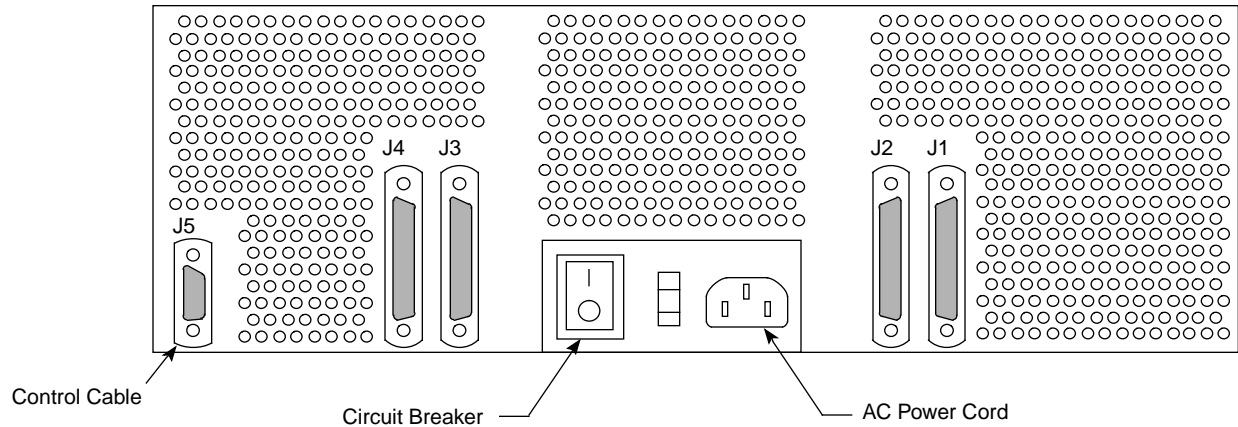

Figure 4. J1 and J3 Connections
1. Install the terminators (P/N 90266200) on the J1 and J3 connectors on the rear of the PE-10S tray. Refer to Figure 4.
2. Connect the power cable (P/N 90307100) into the power cord outlet on the rear of the PE-10S tray. Refer to Figure 4.
3. Connect the control cable (P/N 90307000) into connector J5. Refer to Figure 4.
4. Connect the SCSI cables (P/N 90272200) into connectors J2 and J4. Refer to Figure 4.
Refer to Figure 4 for an illustration of the cable retractor (P/N 90307200).